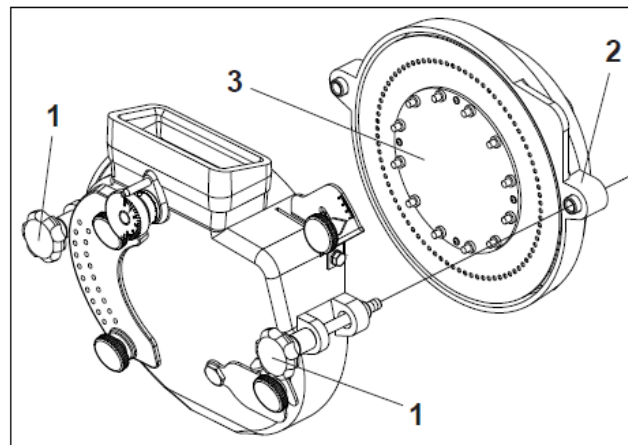

FIGURE 24
- 04 Place the desired perforated stainless steel disc (5) in the rotor (6) through the hooks (7) on the disc itself, securing it on the three slots (8) of the rotor. According to **FIGURE 24**.